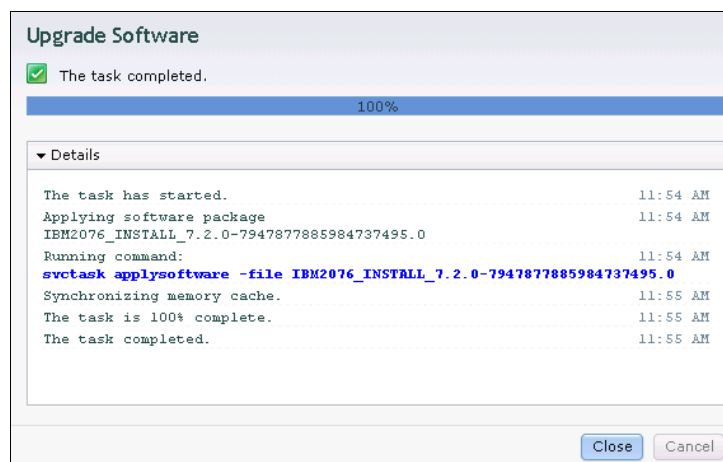

Figure 13-18 Upgrade the software code
10. Click **Finish**. The software upgrade starts. You are redirected to the window illustrated in Figure 13-18. Ignore the warning message that is related to the detection of cluster node if it appears.